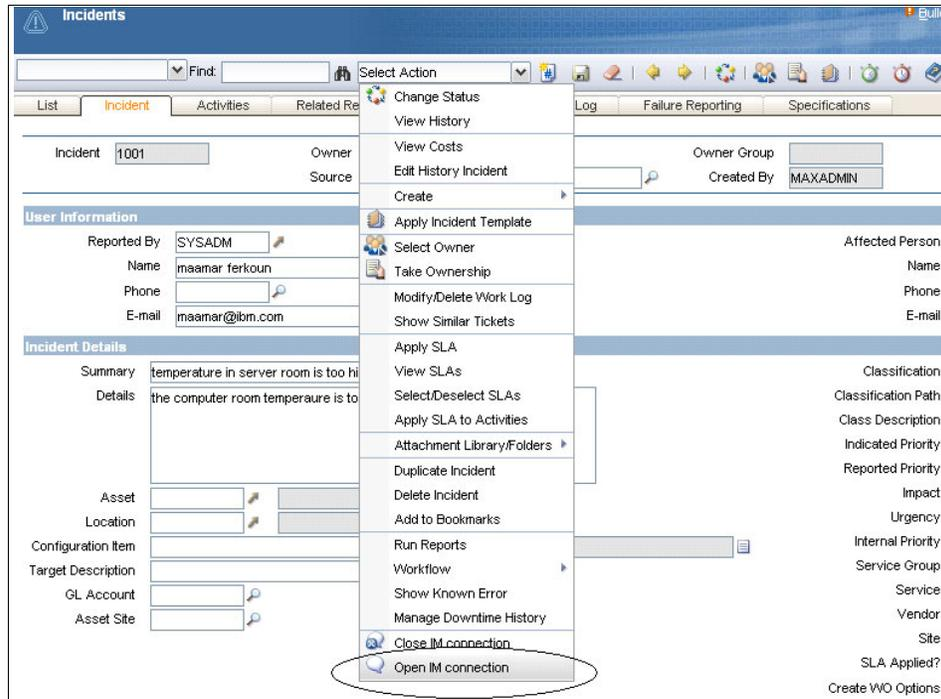

Figure 7-10 Open IM connection
2. Select **Open IM connection** (refer to Figure 7-10 on page 212).